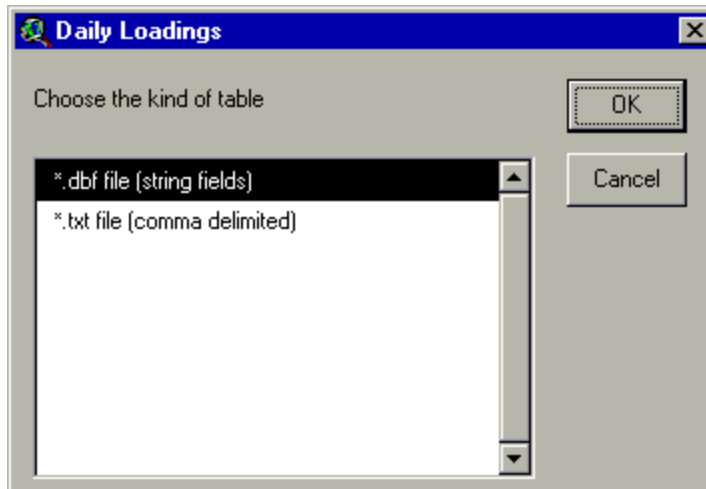

Figure 9.14
- ii. A prompt box will appear so that the user can specify the format of the file containing the average daily point source loadings (Figure 9.14). Select dBASE (.dbf) or text file (.txt) and click **OK**.